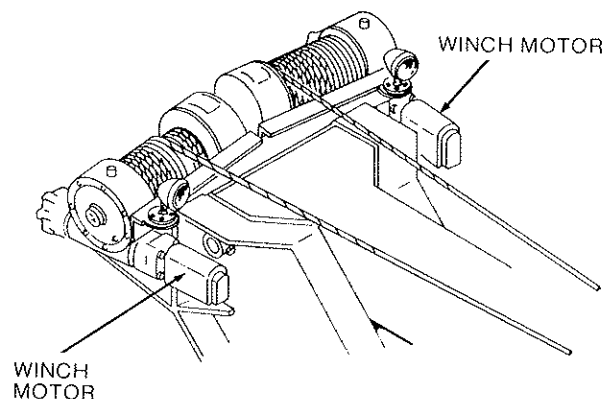

FIG. 2.4
2.7 The self-locking, worm-driven winches are powered by hydraulic motors attached directly to the winch input shafts. (FIG. 2.4)